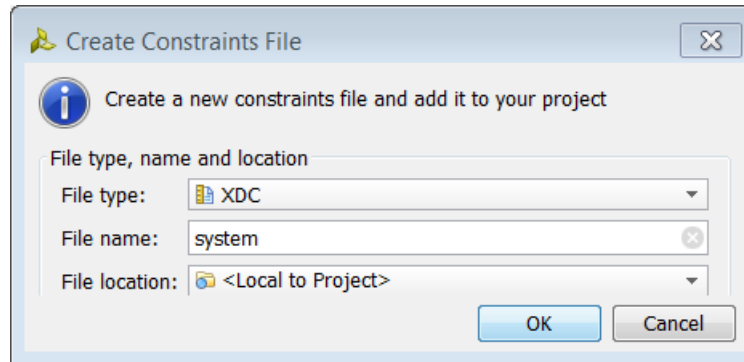

Figure 127: Name Constraint Set File
5. Name the file, and click **OK** (Figure 127).